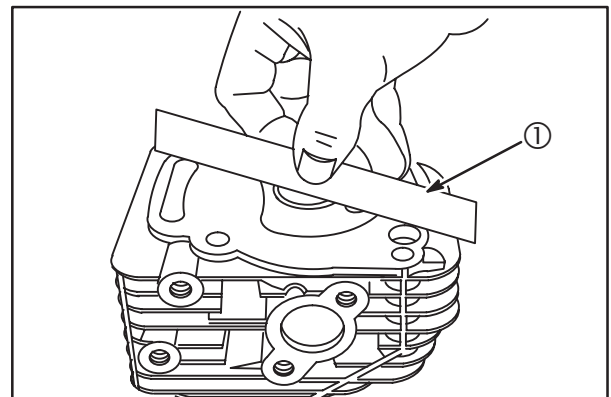

Fig. 9
- Check cylinder head, Fig. 9.
- Use a surface plate or straight edge (1) and check cylinder head mounting surface for distortion.